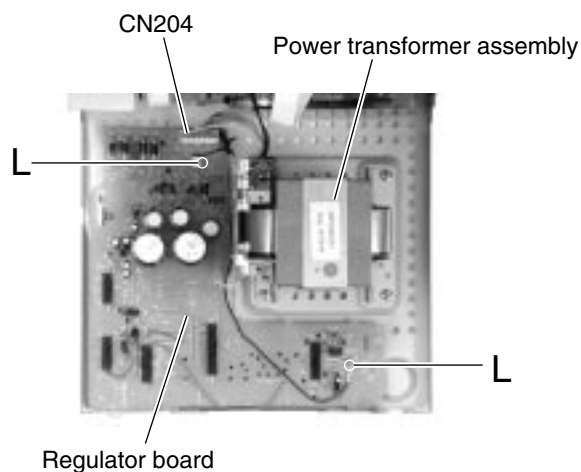

Fig.23
■ Removing the regulator board (See Fig.23)